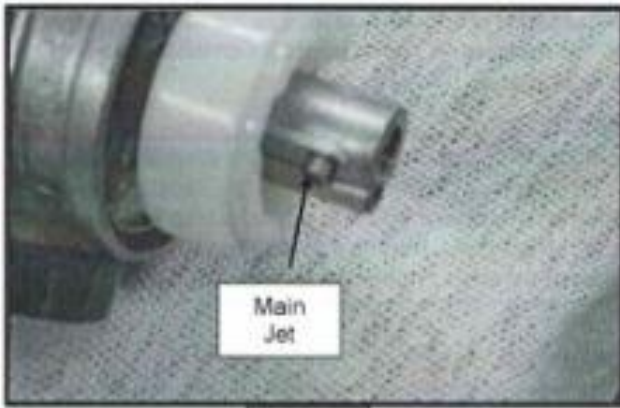
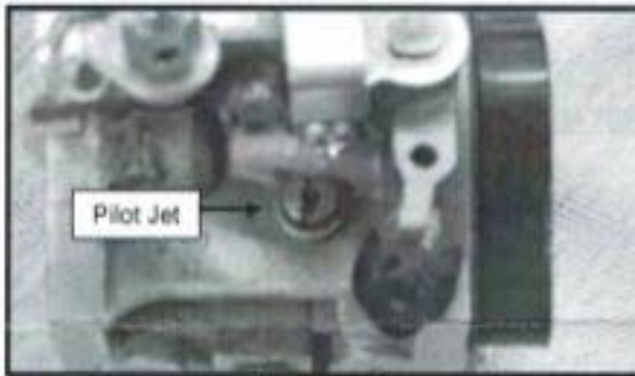

Fig. 4
Fig. 5
- Install the new Main Jet (Fig. 4) and Pilot Jet (Fig. 5). Take care when installing the jets, do not over tighten.